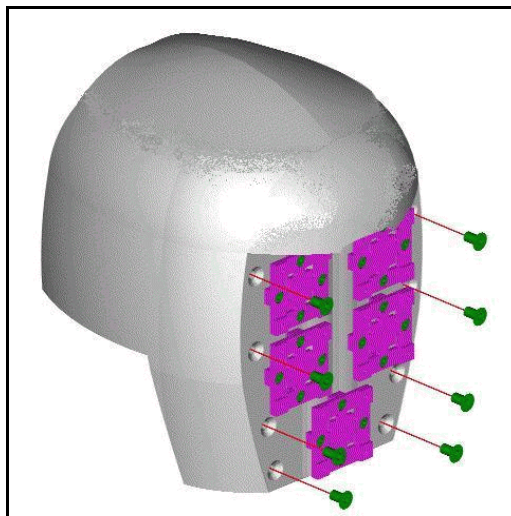

Figure 3.4- Attachment of face plate to head.
2. At this point, it is necessary to attach the Face plate (T1FCM110) to the head (T1HDM111) using eight #10-32 x 1/2" FHCS (1/8"). Route the load cells wires inside the head and out the back. **Figure 3.4** demonstrates this step.